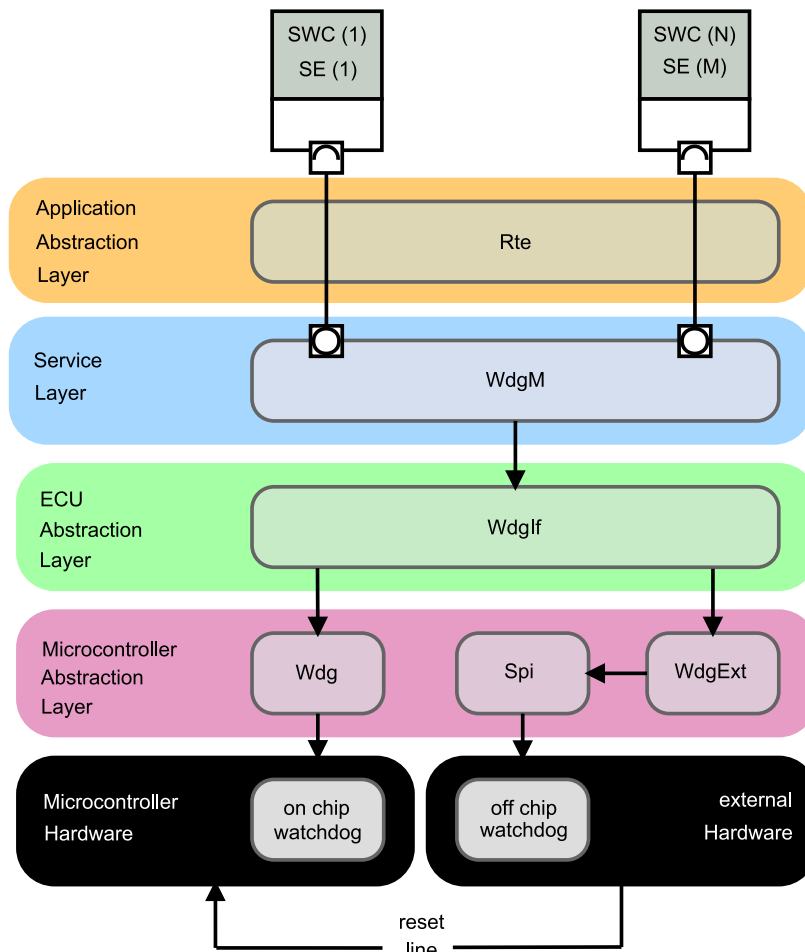

Figure 4.1. Watchdog stack overview
The watchdog stack of EB tresos AutoCore contains a group of modules that simplify the watchdog task on an automotive ECU. Figure 4.1, “Watchdog stack overview” illustrates the structure of the watchdog stack.
The image shows two software components, the SWC (1) and SWC (N). The `WdgM` module can supervise each of these software components. A software component which is supervised is also called *supervised entity* (SE (1) and SE (M) in Figure 4.1, “Watchdog stack overview”).